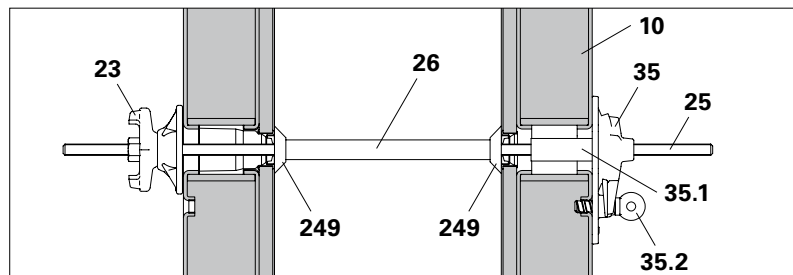

Fig. A5.10
- Version 1 with Cone MX DR 22/2 (Fig. A5.10)